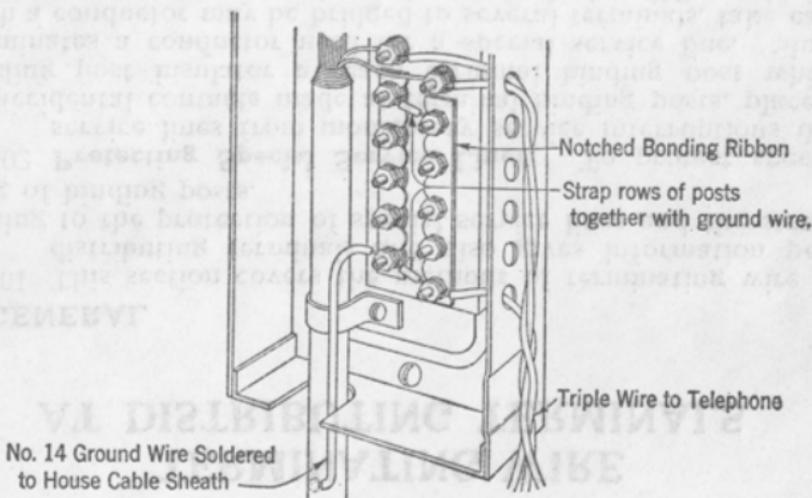

Fig. 3.
1.05 When it is necessary to connect two adjacent rows of consecutive binding posts, connect them as shown in Fig. 3.